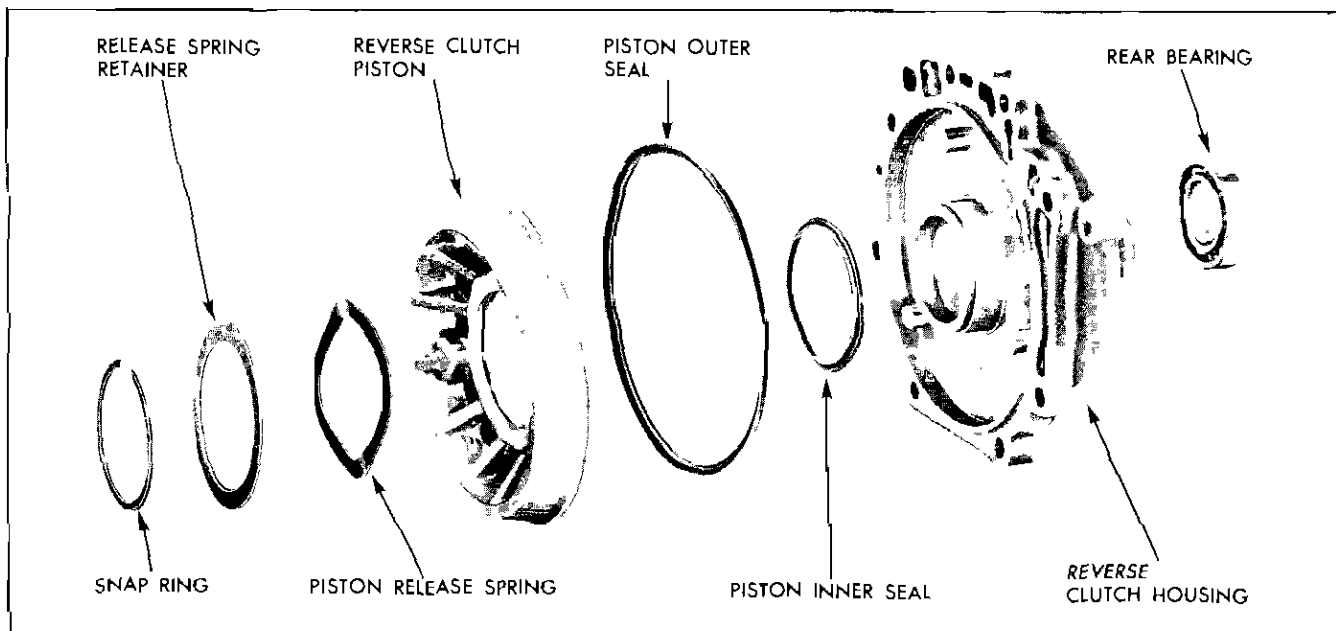

Fig. 127 Reverse Clutch Piston, Housing and Parts--Exploded
4. Observe reverse clutch piston for scoring, nicks, or burrs (Fig. 127). Check oil seal grooves to see that they are in good condition.
5. Place release spring and retainer on piston and install large retaining snap ring (Fig. 127). **NOTE:** Rear bearing will be installed after reverse piston housing is attached to transmission case.